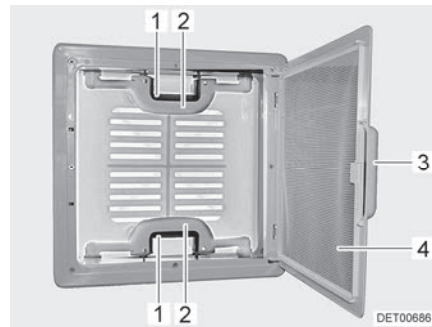

Fig. 50 Skylight with snap latch
- Pull on the handle (Fig. 50,3).
- Fold insect screen (Fig. 50,4) downward.
- Push the snap latch (Fig. 50,1) towards the inside of the skylight. At the same time use the handle (Fig. 50,2) to press the skylight upwards.
- Swing insect screen (Fig. 50,4) upwards until it latches in place.
- Using both handles (Fig. 50,2), pull down the skylight with force until the two snap latches (Fig. 50,1) lock into place.